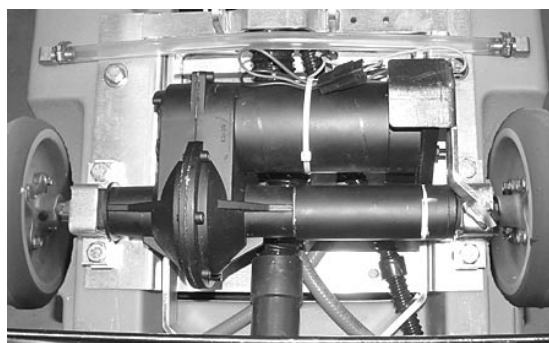

Fig. 8
1. Drain all water from machine and carefully turn machine upside down to access the drive transaxle (Figure 8).